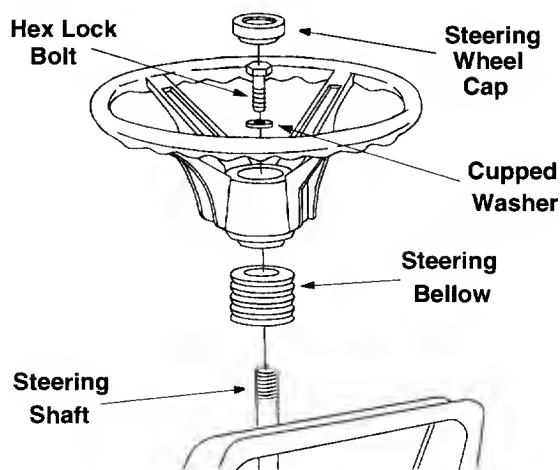

Figure 3
2. Remove the steering bellow from the lift lever on the right hand side of tractor. Place steering bellow over the steering shaft extending through the dash. See Figure 3.
4. Place the washer with the cupped side down over the steering shaft. Secure with hex lock bolt. See Figure 3.